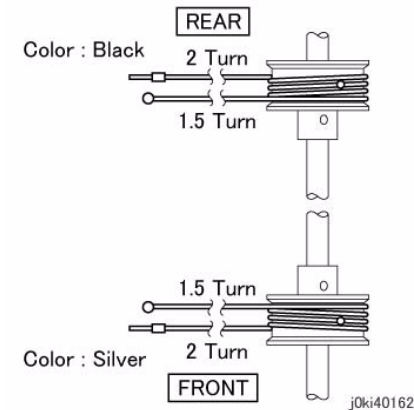

Figure 7 Rounds made by the Carriage Cable
4. The figure below shows the number of rounds made by Carriage Cable at the front and rear. (Figure 7)